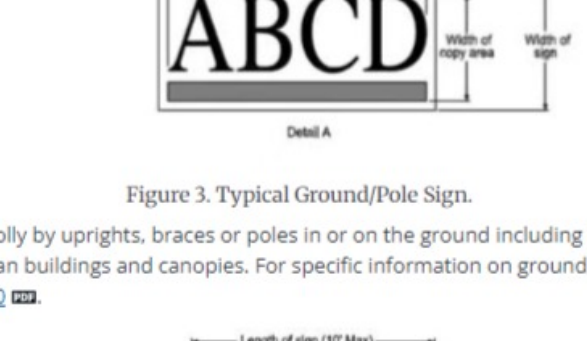

Figure 3. Typical Ground/Pole Sign.
2. Pole Ground Signs more than eight ft. in height measured from the lowest grade to the top of the sign, with sign areas more than 50 sq. ft. See Figure 3.